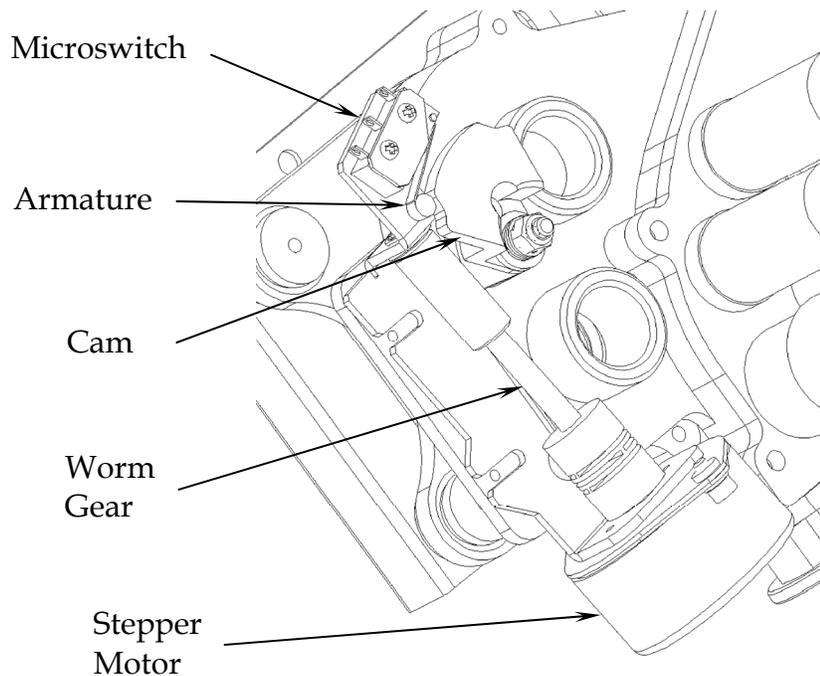

Figure 8-4: O₂ Mixer (Top View)
2. With the unit powered off, manually rotate the shaft of the stepper motor so that the microswitch actuator is at an end position on the cam (see Figure 8-4).